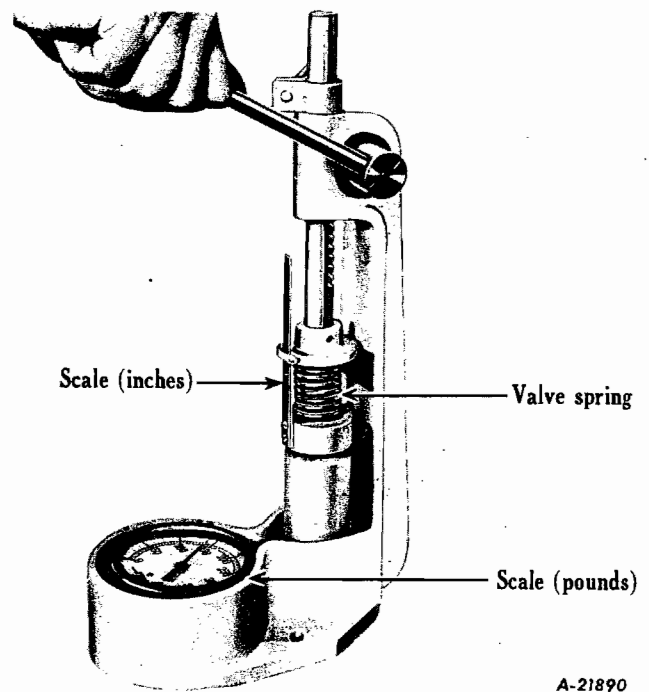

Fig. 16 - Use SE-1565 Valve spring testing tool or similar tool to check spring tension.
2. Test valve springs with damper in position. Test tension of each valve spring at valve open length with a valve-spring tester (Fig. 16). Check valve springs at 1-11/16" length, and replace if pressure is less than 149 lbs.